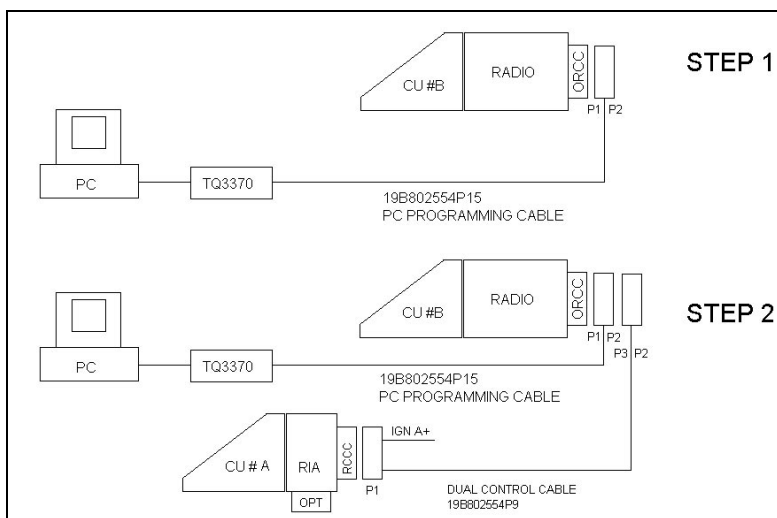

Figure 31 - ORION Dual Control Unit PC Programming Configuration
1. Configure the ORION Front Mount Radio with the PC Programming Assembly, as shown in Figure 31, Step 1. Program the radio with the following files:
- Now configure the Front Mount Radio and the Auxiliary Control Unit together with the PC Programming Assembly, as shown in Figure 31, Step 2. Program this configuration with the following files: